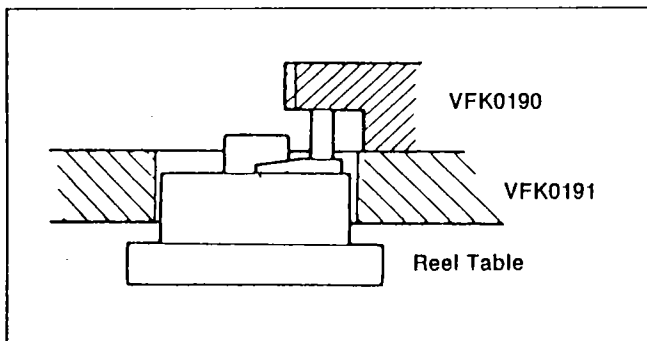

Figure M31
4. Measure the meter indication of top surface of reel table as shown in Figure M31. And then perform the same measurement and confirmation for the other reel table.